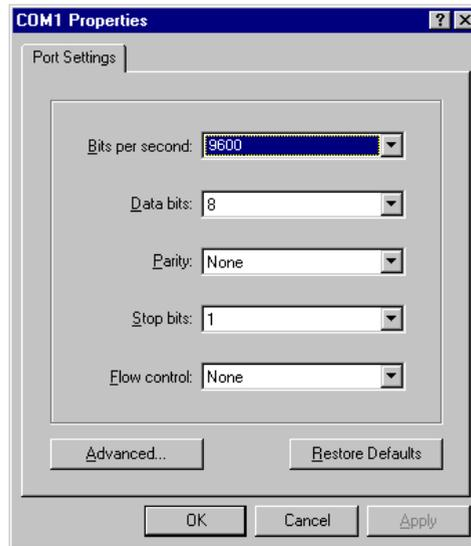

Figure 3-4 Setting communications parameters
Step 4: Click <OK>. The Port Settings tab, shown in Figure 3-4, appears and you can set serial port parameters. Set the following parameters: